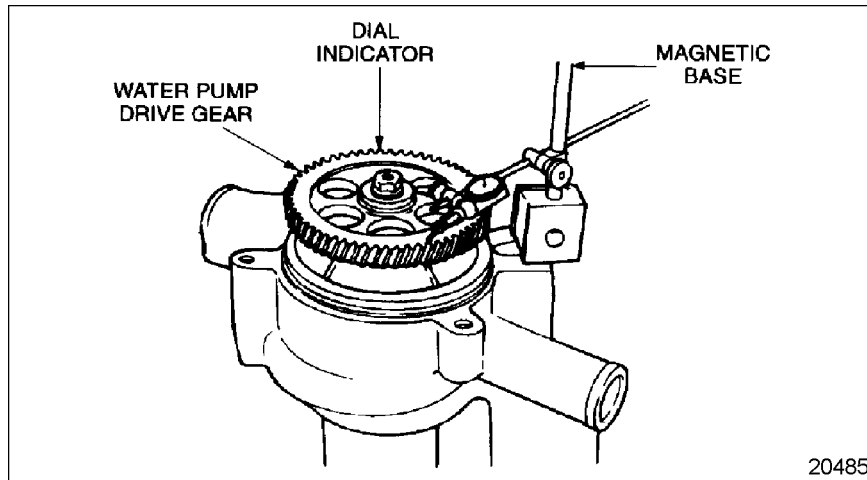

Figure 12-1 Measuring Water Pump Drive Gear Run-out
2. Turn the water pump over and install J-35687, water pump impeller slip and lash tester, into the tapped holes provided in the impeller; see Figure 12-1.